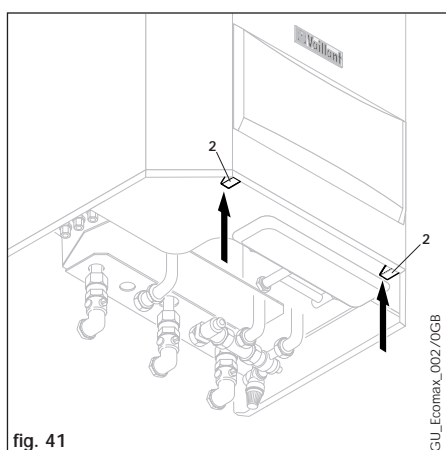

fig. 41
- Ensure that the spring retaining clips, located beneath the front edge of the appliance, engage correctly in the bottom lip of the front casing (2, fig. 41).